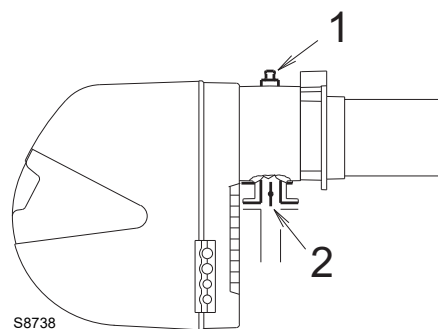

Fig. 25
Gas pressure measured at the test point 1)(Fig. 25 at page 26), with:
- Subtract the combustion chamber pressure from the gas pressure measured at test point 1)(Fig. 25 at page 26).
Gas pressure at test point 1)(Fig. 25) = 12.7 mbar
To know the required gas pressure at test point 1)(Fig. 25), set the maximum output required from the burner operation, then:
- Read, on the right the socket pressure 1)(Fig. 25).
gas pressure at test point 1)(Fig. 25).